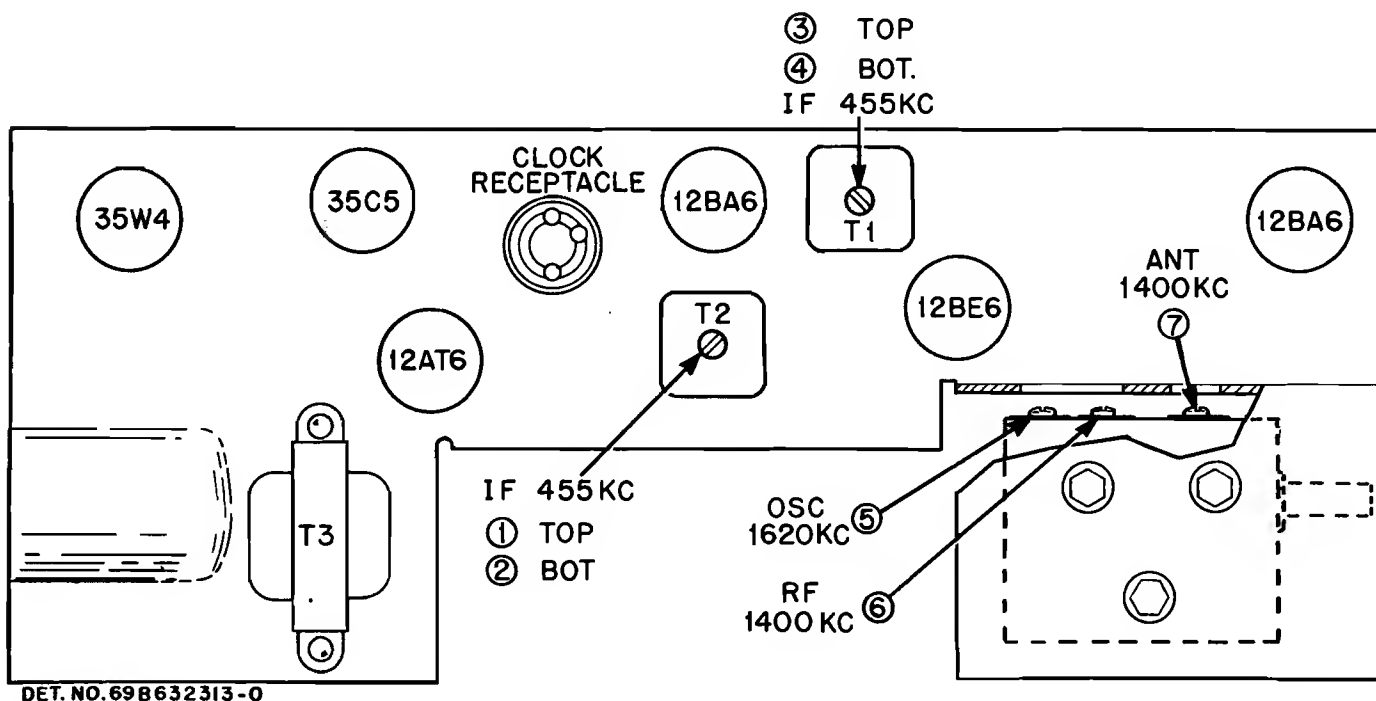

FIGURE 1. TUBE & TRIMMER LOCATIONS
7. See Figure 1 for adjustment locations and the following chart for procedure.